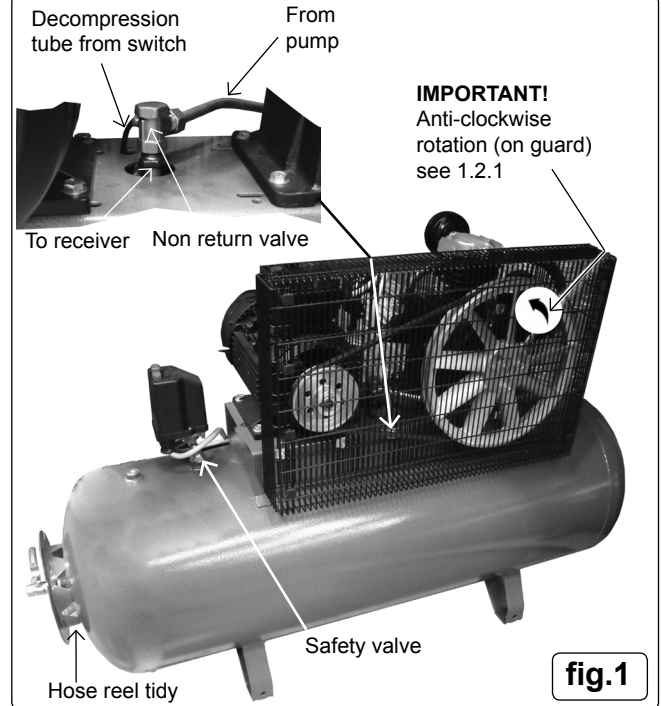
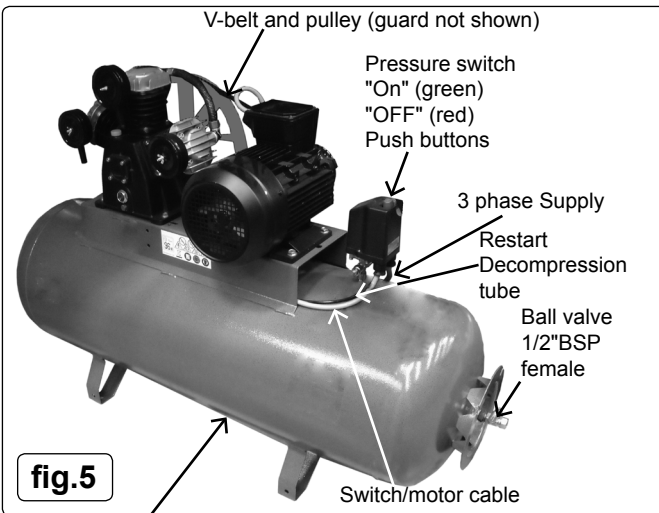

fig.1
fig.5
WARNING! IT IS ESSENTIAL TO OBSERVE ACW (fig.1) PULLEY DIRECTION ON INITIAL START UP. IF CW OBSERVED, STOP IMMEDIATELY AND CONSULT A QUALIFIED ELECTRICIAN TO INVERT 2 PHASES*.
- 4.3.1. Your compressor is fitted with two push buttons for on/off switching. To turn the compressor on push the green "on" button. To turn the compressor off push the red button "off" downwards. (See fig.5)
- 4.3.3. Plug mains lead into mains supply and start the compressor by pushing the green "on" button (fig.5) downwards.
- 4.3.4. Leave the compressor running with no air line or tools connected. Make sure that the pressure in the tank rises and that the compressor stops automatically when the maximum pressure is reached. This value is written on the specification plate and may take in excess of 5 minutes. The compressor will now operate automatically. The pressure switch (fig.5) stops the motor when the maximum tank pressure is reached and restarts it when pressure falls below the minimum threshold approximately 2bar (29psi) less than the maximum pressure.
- 4.3.5. Stop the compressor by pushing the red "off" button (fig.5) downwards. The compressed air inside the compressor head will flow out via the air line tube situated beneath the switch housing. Restart is made easier and prevents the motor from being damaged. **DO NOT**, other than in an emergency, stop the compressor by switching off the mains power, or by pulling the plug out, as the pressure relief will not then occur and motor damage may result upon restart. When the compressor runs correctly and is stopped correctly there will be:
- NOTE: If the motor does not cut in and out, but runs continuously when using an air appliance, the capacity of the compressor may be too small for the equipment or tool. Should the pressure in the main tank exceed the pre-set switch (fig.5) maximum, the safety valve (fig.1) will activate.
a) Drain condensation by opening the valve located under the tank (fig.5). Place a container under the valve and slowly open the valve by turning counterclockwise.